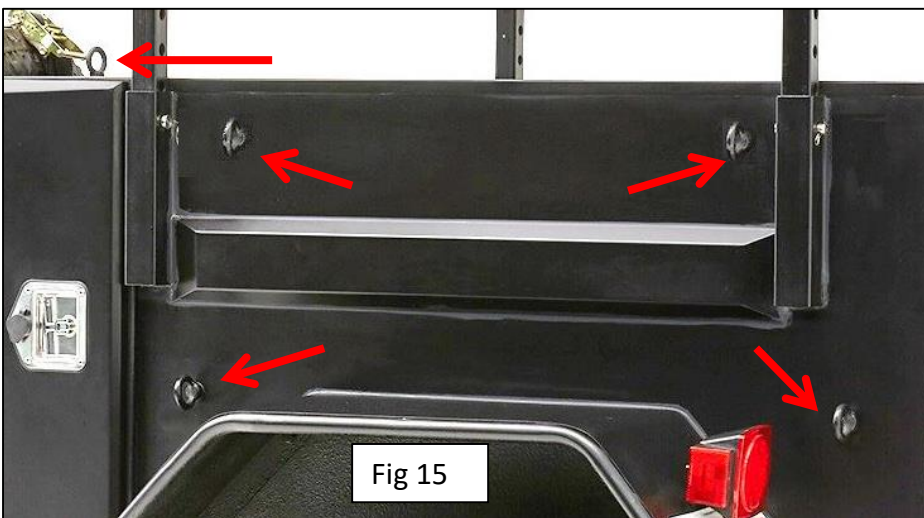

Fig 15
21. Install all eyebolts. They may be installed in any clocking position but we have found the best is a vertical orientation. Seal all eyebolts with black silicon sealant to prevent ingress of dust/water. Each eyebolt assembly consists of a male and female eyelet, one side will be on the outside of the trailer and the other will be on the inside. On the roof of the trailer in the front near the spare tire you will use a male eyebolt only. It will thread into the threaded hole. This eyebolt can be used to tie down the spare tire. Fig 15.